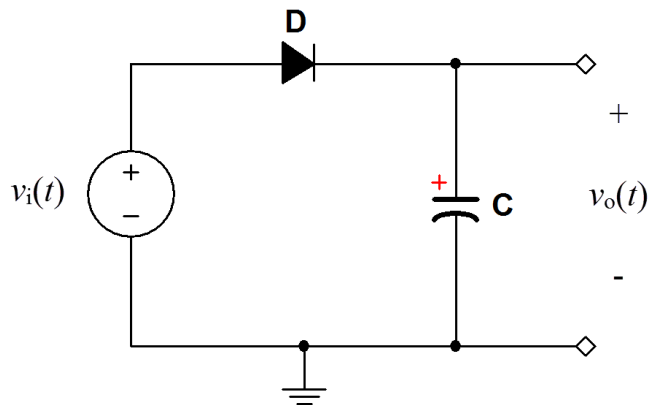
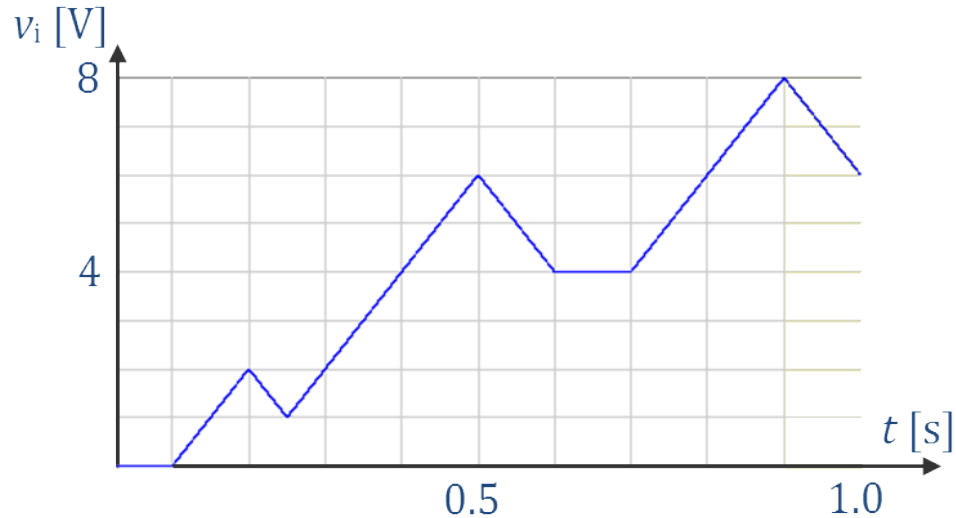

Figure 1.9: Circuit for Problem 1.9
Figure 1.10: Input waveform for Problem 1.9 on the preceding page
Figure 1.9 shows a *peak rectifier*, also known as a *peak detector*, a circuit whose output tracks the most-recent maximum value of the input signal.
1. Plot the input and output voltage waveforms $v_i(t)$ and $v_o(t)$ as well as the capacitor current $i_C(t)$ for the input waveform shown in Figure 1.10 on the next page. Assume the capacitor is initially discharged.
Enter the circuit of Figure 1.9 on the preceding page using the 1N4148 diode model. Use the `PIECEWISE_LINEAR_VOLTAGE` source to create the input waveform pictured in Figure 1.10.
Construct the circuit of Figure 1.9 on page 43 using a 1N4148 diode and an electrolytic capacitor; be sure to observe proper polarity for the capacitor. Use the ELVISmx Arbitrary Waveform Generator to create $v_i(t)$ and the ELVISmx Oscilloscope to display both $v_i(t)$ and $v_o(t)$.